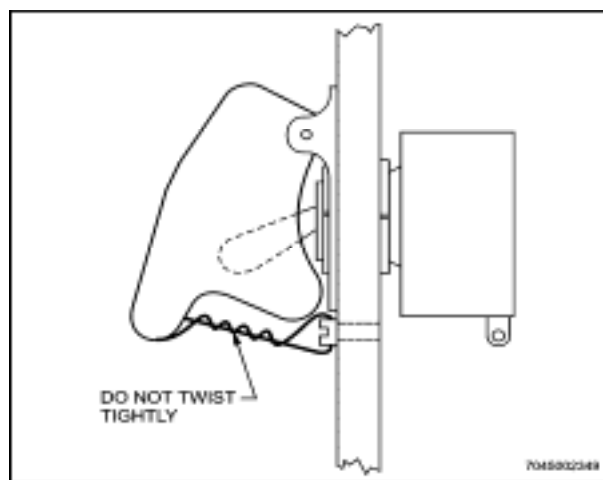

Figure 9-10 Shear Wiring Switch Guard
21. Use single wire method to secure emergency devices. (See Figure 9-10.) Make sure that wire is so installed that it can easily be broken when required in an emergency situation.